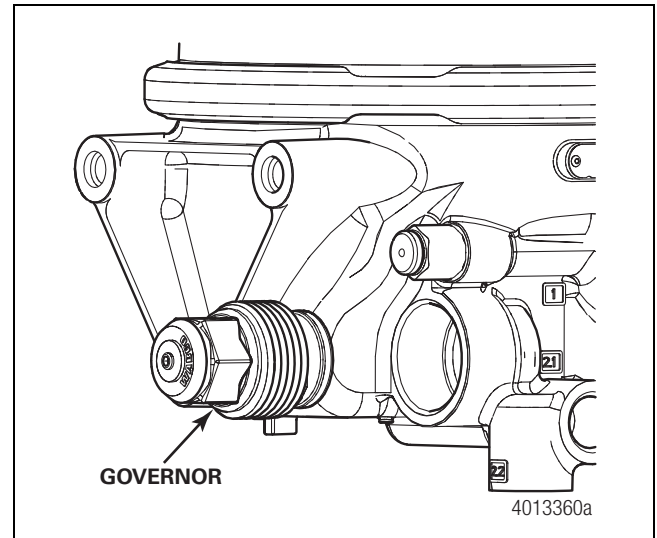

Figure 2.8
1. Using a 1-3/16" wrench, remove the governor from the air dryer. Figure 2.8.